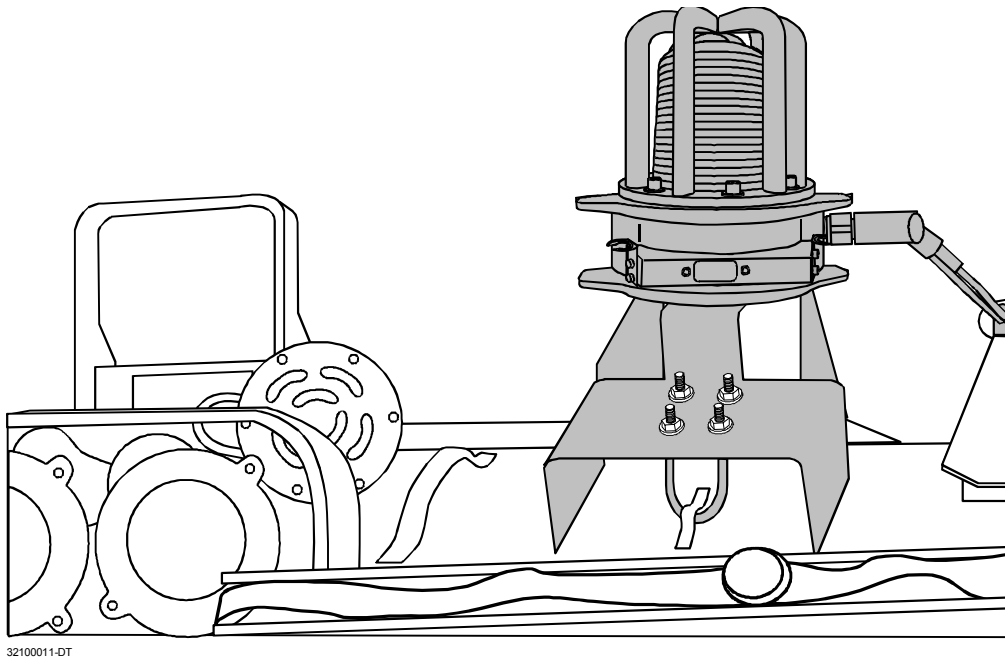

Figure 2-13. M113 KSI and Adapter Placement.
- f. Put one side of the U-bolt through the attachment bracket, so that the two (2) ends of the bolt are facing out away from the vehicle. Match up the mounting holes in the adapter with the two (2) ends of the U-bolt. Secure the U-bolt to the adapter with the nuts. (See Figure 2-13.)
- h. There should be fastener tape attached to the top of the adapter assembly, as well as to the bottom of the KSI. If this is not the case, apply two (2) large strips of pile fastener tape to the bottom of the KSI (ensuring the center bolt is not obstructed), and two (2) large strips of hook fastener tape to the top of the adapter assembly (ensuring the mounting hole is not obstructed).